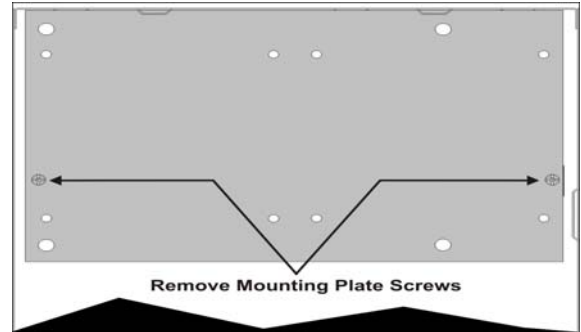

Figure 1 Cabinet Mounting Holes
3. To remove the mounting plate, unscrew the two mounting plate screws as shown in Figure 1.
4. Remove and retain the two mounting plate screws to expose the cabinet mounting holes. See Figure 1.